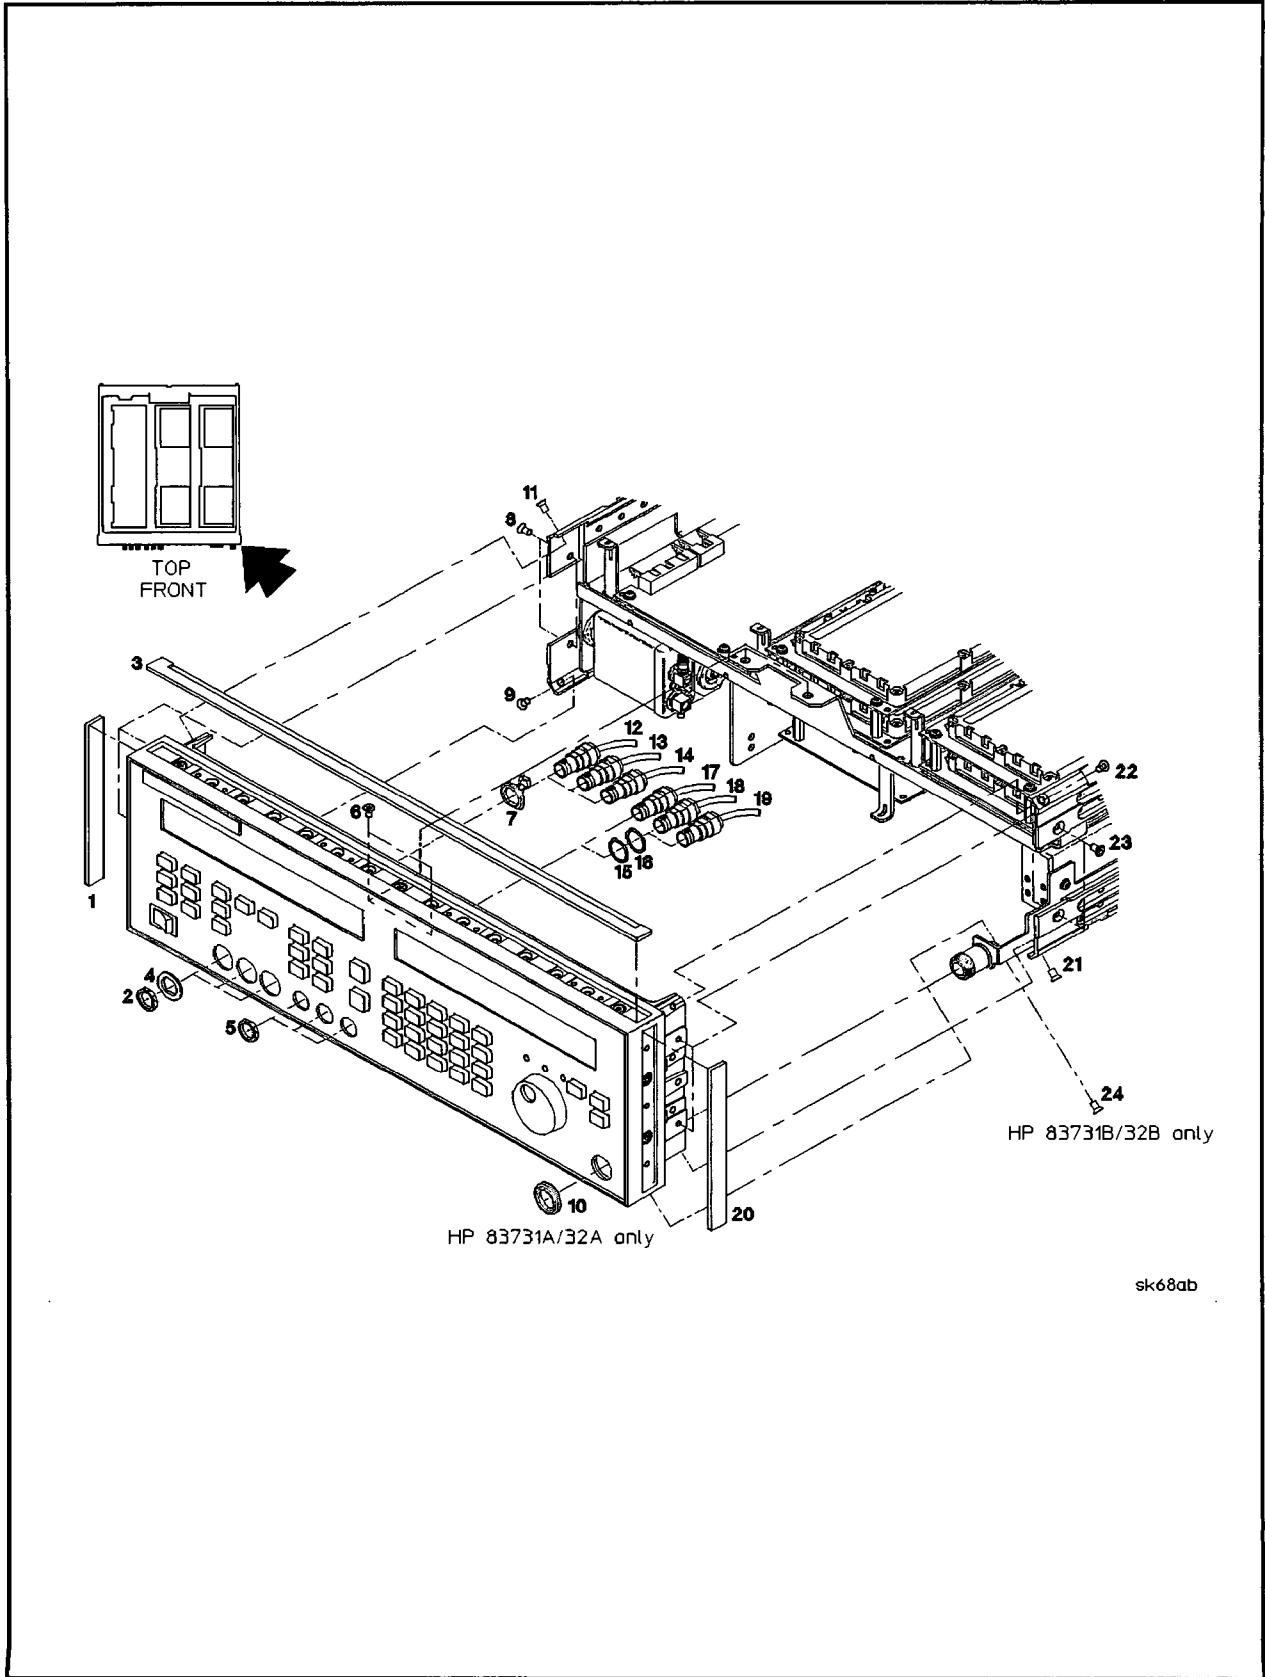

Figure 4-8. Front Panel Illustrated Parts Breakdown
**Table 4-10. Illustrated Replaceable Parts (Figure 4-8)**